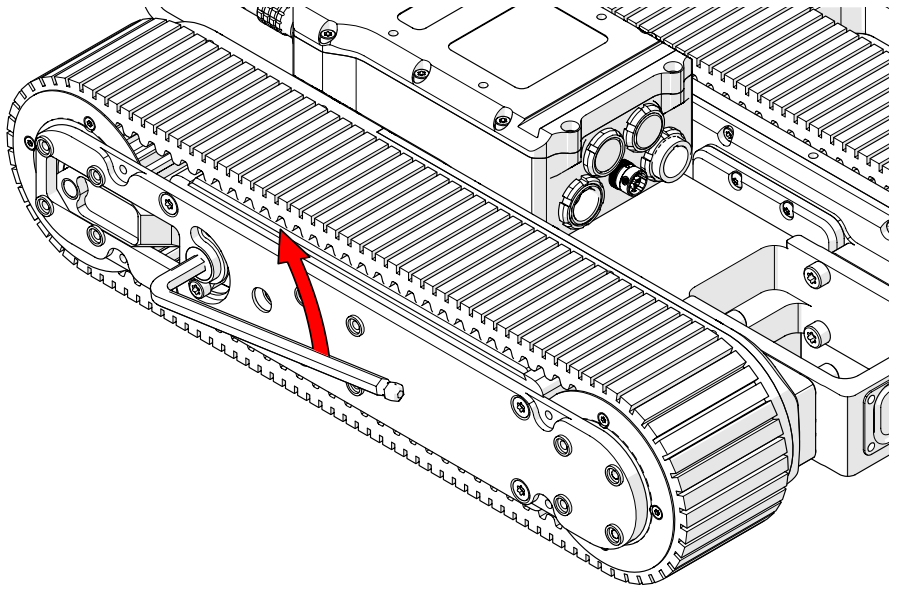

Fig. 58 - Loosen belt tensioning cam
4. Using a 6 mm hex tool, loosen the belt tensioning cam (Fig. 58).